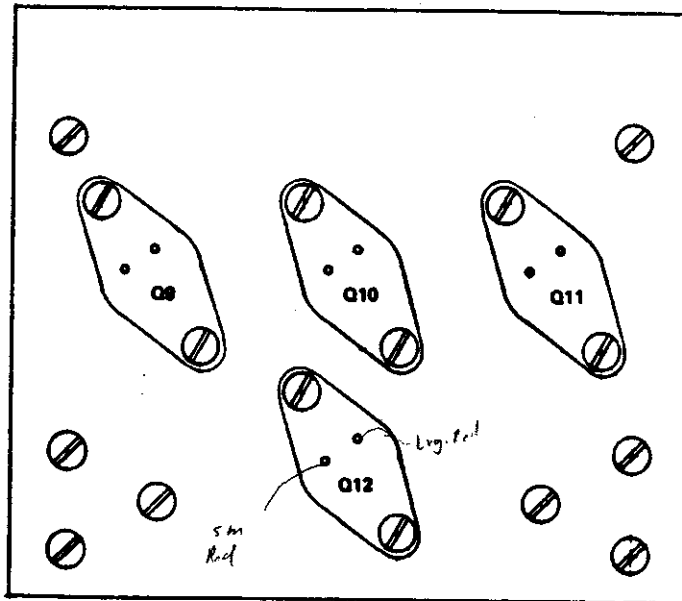

Figure 14 - Heatsinks for +24, -24, +12, -12 volt Pass Transistors
4. Heatsink for the +24, -24, +12 and -12 transistors. (Figure 14)